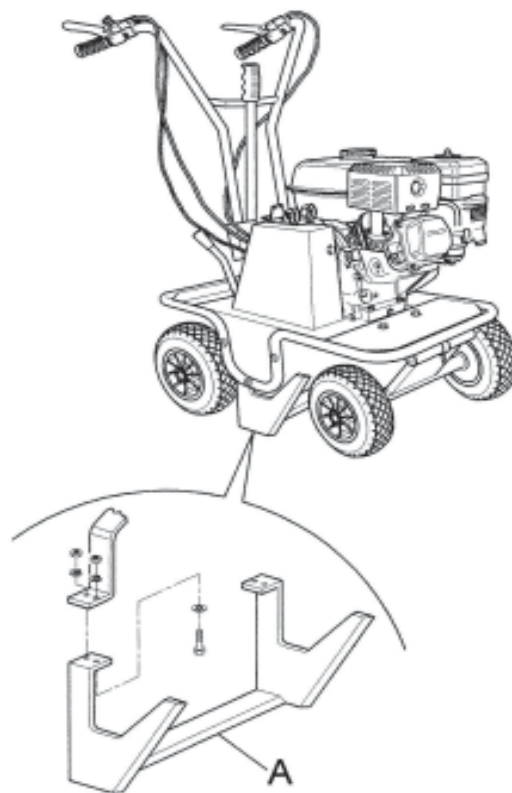

Figure 10
- During work operations if the blade (Fig. 10, ref. A) strikes stones or stumps stop straightaway and make sure that it has not become bent or broken. A damaged blade must be replaced.